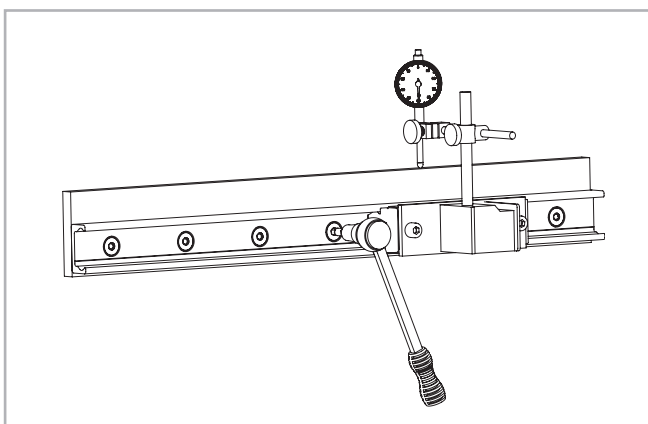

Fig. 105
(2) Install a dial indicator so that the offset of the rail to a reference line can be measured. Now position the slider in the center of the rail and set the dial indicator to zero. Move the slider back and forth between each two hole spacings and carefully align the rail. Fasten the three center screws of this area now with the specified tightening torque, see pg. fig. 105.
(3) Now position the slider on one end of the rail and carefully align the rail to zero on the dial indicator.